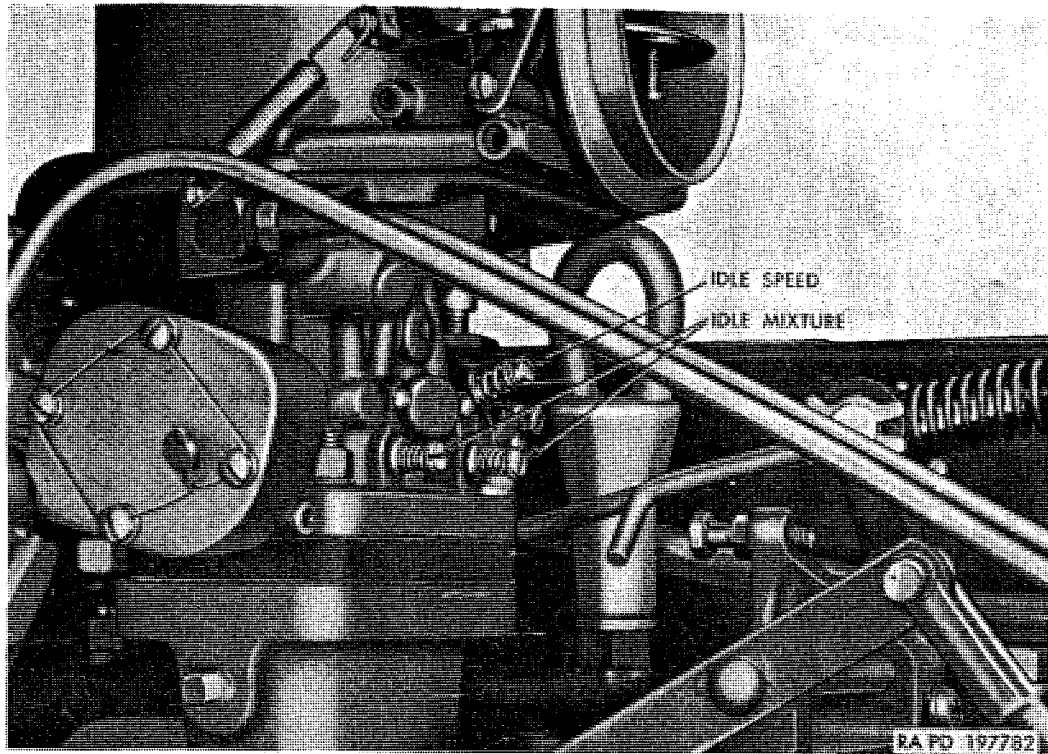

Figure 123. Carburetor adjusting screws.
b. Adjustments. One screw is provided at carburetor for setting engine idling speed, and idling mixture is controlled by two adjustable screws (fig. 123). Electric-type tachometer (fig. 190) designed to operate from ignition primary circuit must be available for use in making idling speed adjustment. Vacuum gage must be used as well as tachometer when adjusting carburetor idling mixture.
- (2) *Idling mixture adjustment.* Connect electric tachometer at ignition distributor as described in (1) above. Remove pipe plug from special elbow in intake manifold below carburetor and attach vacuum gage. Start engine and run until engine temperature reaches 160° to 220° F. Turn idling mixture screws (fig. 123) at rear of carburetor body one at a time to obtain highest reading on vacuum gage with steady indicator. Recheck engine speed indicated on tachometer and readjust